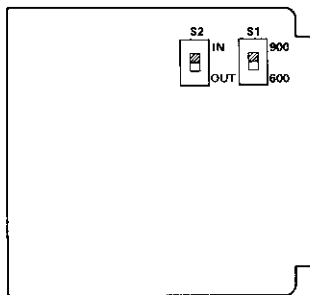

figure 5. 6206 switch options
3.05 Three option switches (all of which are two-position slide switches) must be set before the 6206 is placed into service. Two of these switches are located on the printed circuit board as shown in figure 5. The third switch is the *norm/test* switch on the module's front panel (see paragraph 2.04). Paragraphs 3.06 through 3.08 describe each switch in detail.